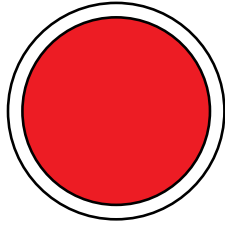

Figure 3. Circuit Breaker OFF Button (ON/RED)
- Make sure the **Circuit Breaker OFF** button LED is **ON (red)**. See Figure 3.